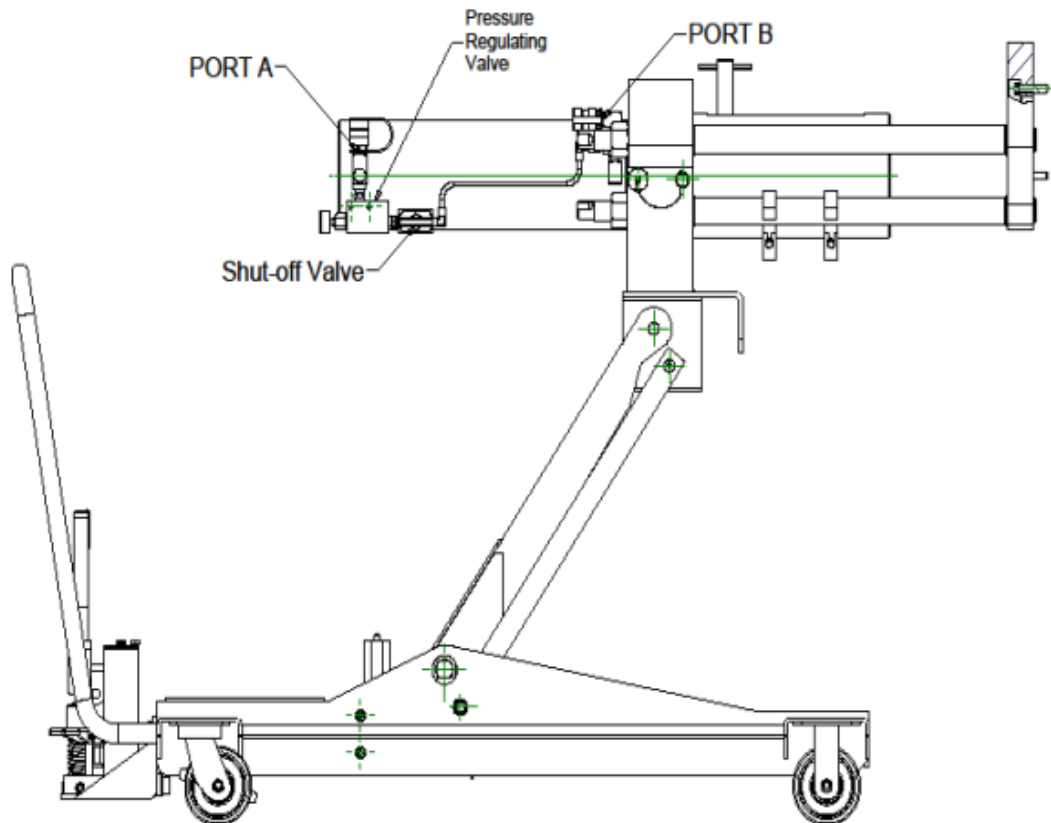

Figure 1 – Adjusting the Pressure Regulator Valve
- a) Connect one 40" hose from port ‘A’ to the pressure regulator valve (shown below in Figure 1).